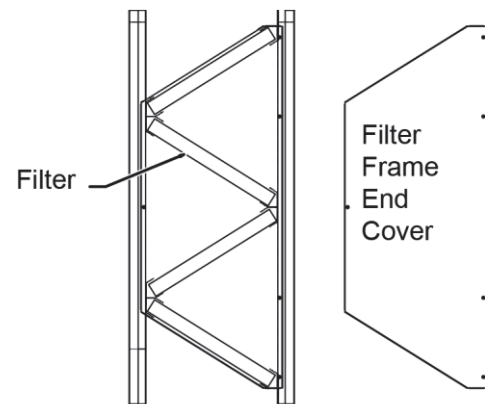

FIGURE 57 - INSTALLING ANGLE FILTERS
2. Remove filter frame end cover as shown in *Figure 57 on page 62 and Figure 36 on page 52*.